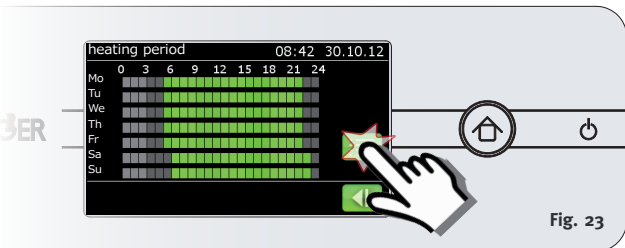

Fig. 23
3. Press the Menu button to enter or amend the heating times (Fig. 23).